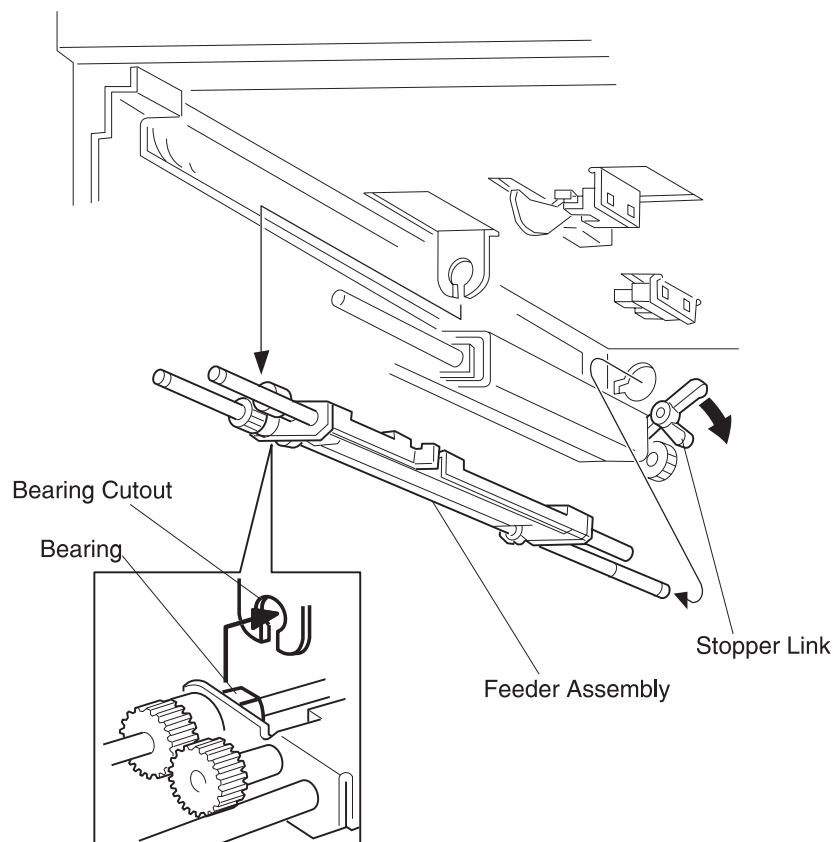

Figure 2
2. Slide the Bearing into the Bearing cutout (Figure 2).